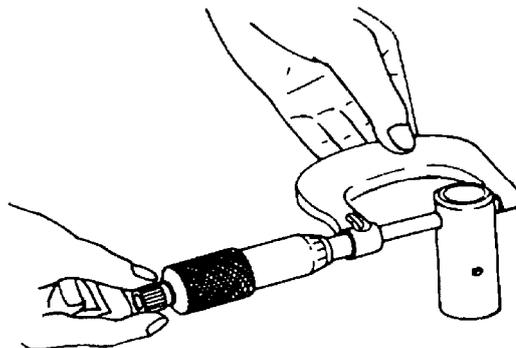

Figure 27 Camshaft Follower Outside Dimensions
- d. Using a micrometer, check that the camshaft follower O.D. is 27.92 to 27.98 mm (1.1 to 1.1024 in) and replace them as necessary (Figure 27).